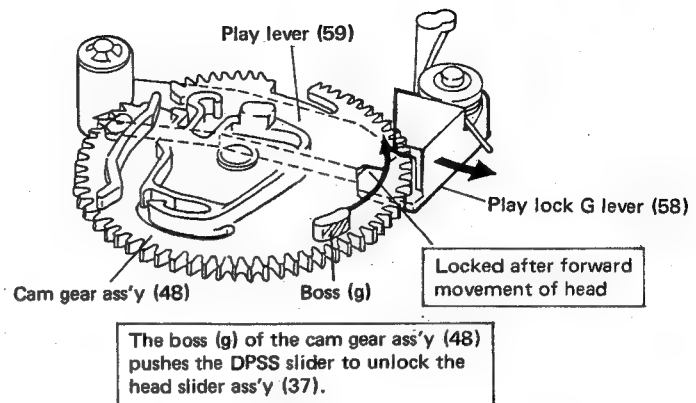
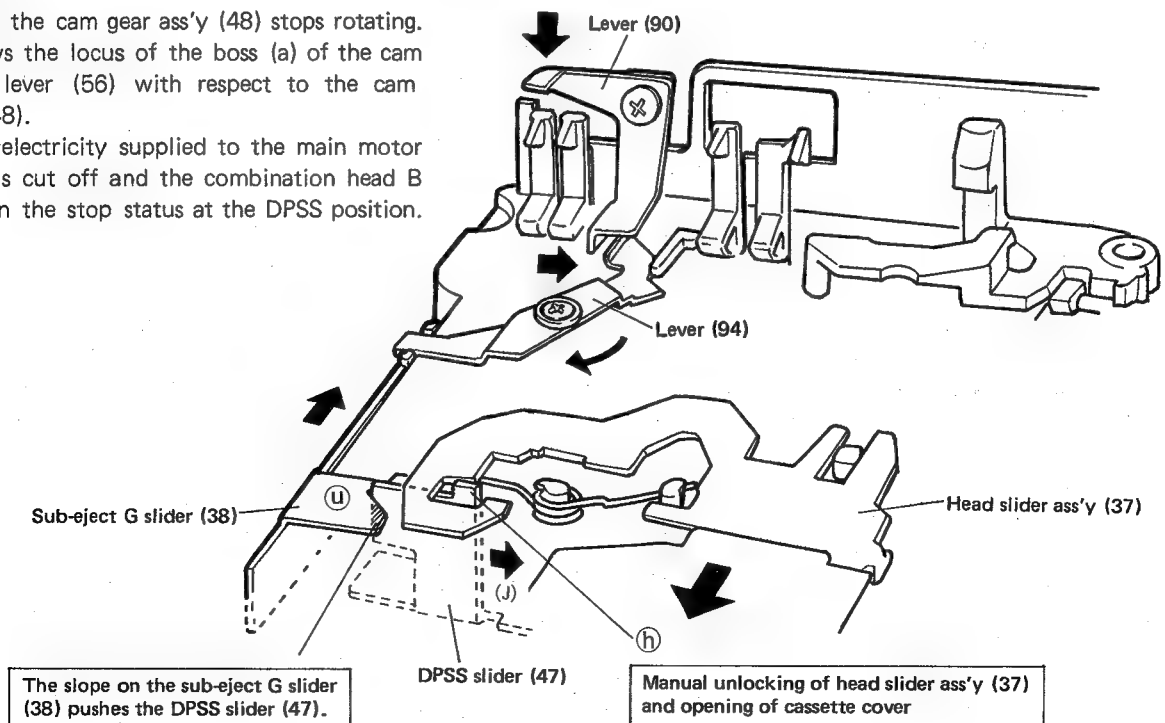

Fig. 24
Fig. 26
- 3) As the cam gear ass'y (48) rotates, the boss (g) moves the play lock G lever (58) to unlock the play lever (59). (See Figs. 24 and 25) As a result, the head slider ass'y (37) moves downward and the pinch roller moves away from the capstan. However, the head slider ass'y (37) is hooked and stopped by the portion (h) of the DPSS slider (47). (Earliest stage in Fig. 26.)
- 1) As the cam gear ass'y (48) rotates, the boss (g) moves aside the DPSS slider (47) to unlock the head slider ass'y (37) put to the DPSS position and moves the head slider ass'y (37) downward until it reaches the position to which it was put immediately after mounting of the cassette half (See Fig. 26 and 27.) In play after reverse play and stop, the following operations are performed after step 1) above.
- 2) As the head slider ass'y (37) is moved downward until it reaches the position to which it was put immediately after mounting of the cassette half, the reverse slider (46) is unlocked and the combination head B (4) is inverted from the reverse to the forward direction.
Operations for ejection of the cassette half are described below. (See Fig. 26.)